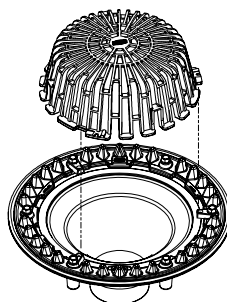
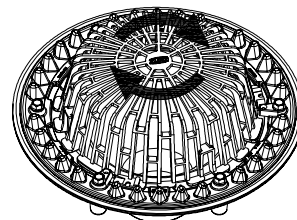

Fig. 3a
Fig. 3b
4. Align the dome inside of the clamping collar and rotate clockwise until dome is engaged and secured (Fig. 3a, Fig 3b).